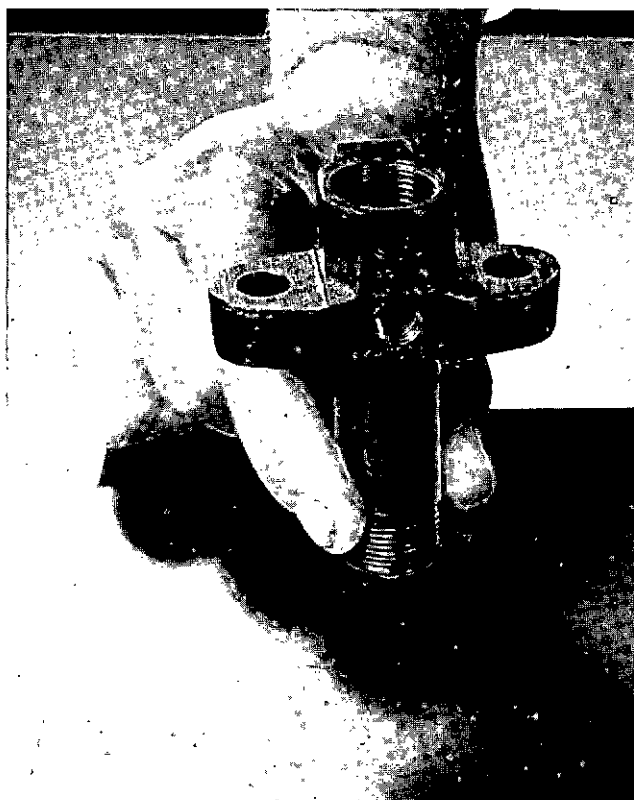

Figure 108
5. Clean the lapped surface of the nozzle body on a lapping plate as follows: (See Fig. 108).
- d. Place the lapped surface of the nozzle body on the lapping plate as shown in Fig. 108, and move in a circular motion being careful to hold even pressure on the nozzle body so that the entire surface will make contact. This cleaning operation will remove carbon or discoloration and leave a mirror finish. Scratches, nicks or pitting cannot be removed and may cause leakage.